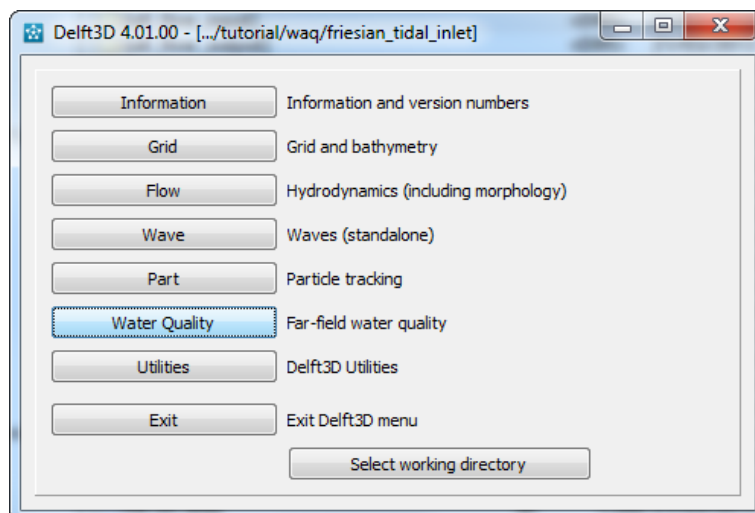

Figure 3.2: Main window Delft3D-MENU
After a short while the main window of the Delft3D-MENU appears, Figure 3-2.
- ◇ Select *Water Quality* in the main window, see Figure 3.2.